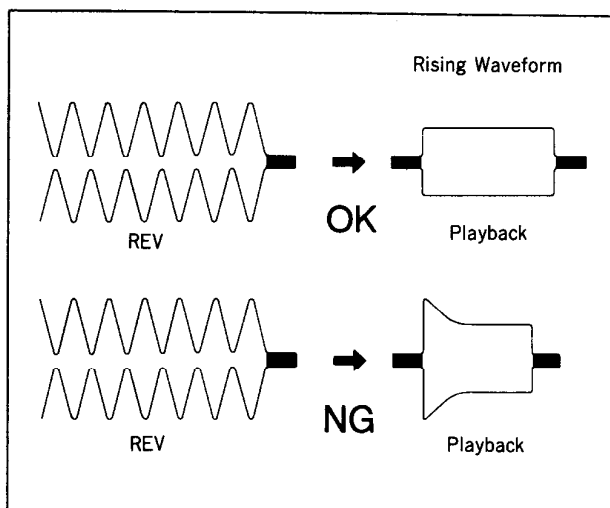

Fig. 41
- 6) If the waveform is not normal (Fig. 41), turn the upper flange ③ of the No. 2 guide (TG2) 90° counterclockwise and repeat step 5.